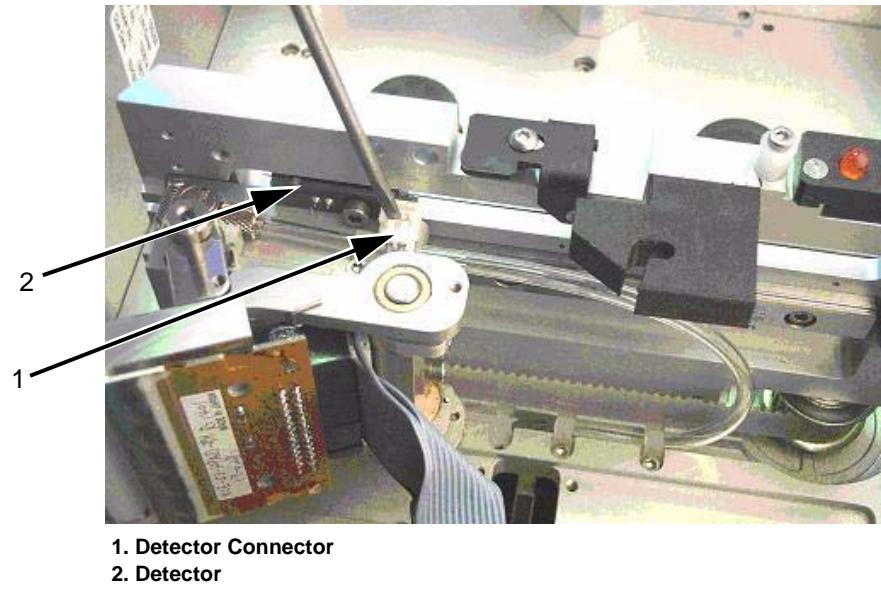

Figure 5-56: Detector Connector Removal
- 2 Remove the detector connector from the detector assembly as shown in Figure 5-56.
- 3 Remove the two detector screws shown in Figure 5-56 on page 5-38.